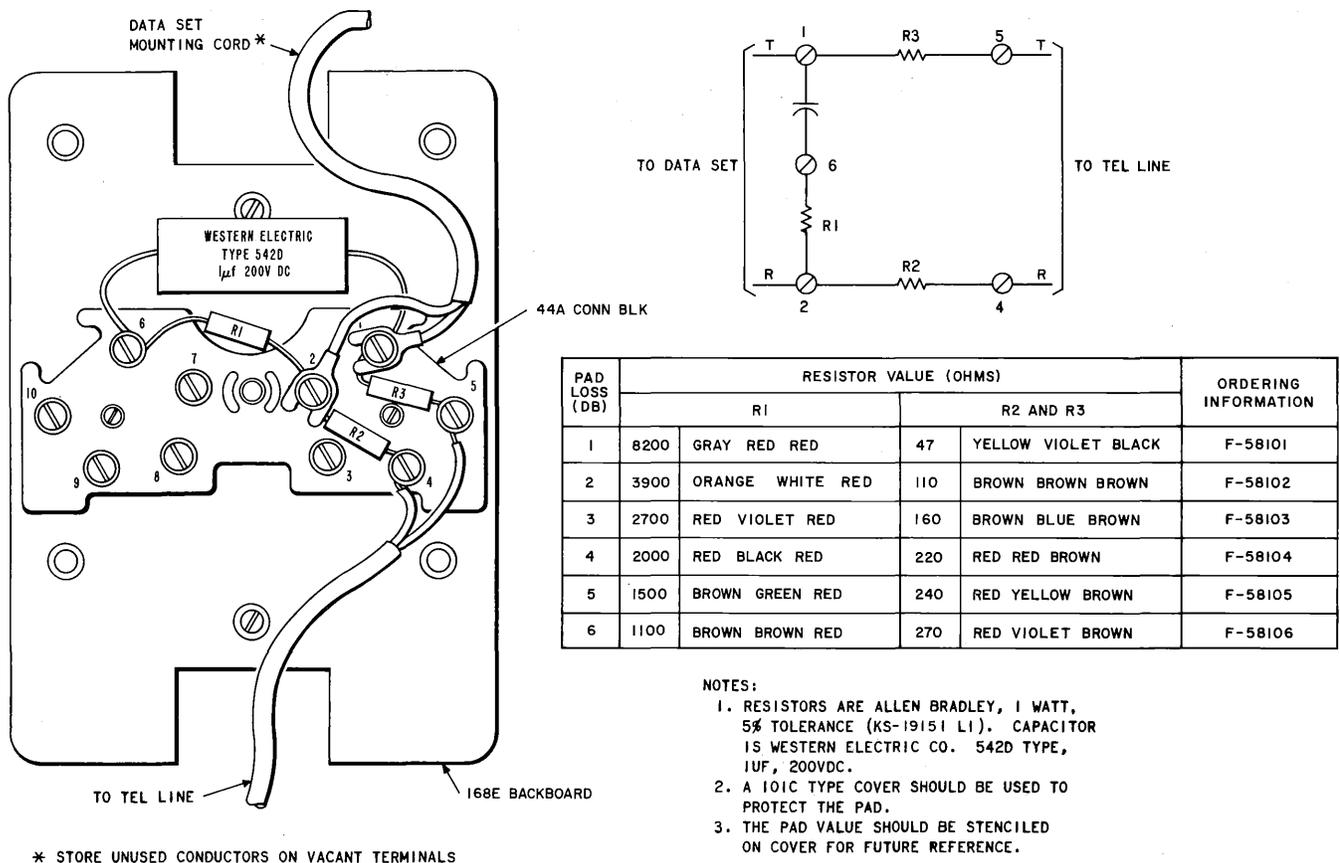

Fig. 9—Typical Installation Wiring of 2-dB Pad
**3.10** A 2-dB pad, F-58102, must be installed on a local loop which has an insertion loss of 0 or 1 dB (see Table B). Install the pad on a wall or vertical surface near the coupler. Connect the 2-dB pad as shown in Fig. 9.
**Note:** The data set connections in Fig. 9 are to be made to the coupling unit in conjunction with Fig. 5.